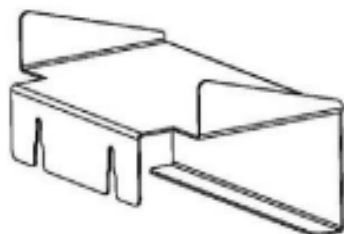

Fig. 4.4
6. Apply the supplied handles to the instrument to execute the transfer of the instrument, as shown in sequence (Fig.4.4)